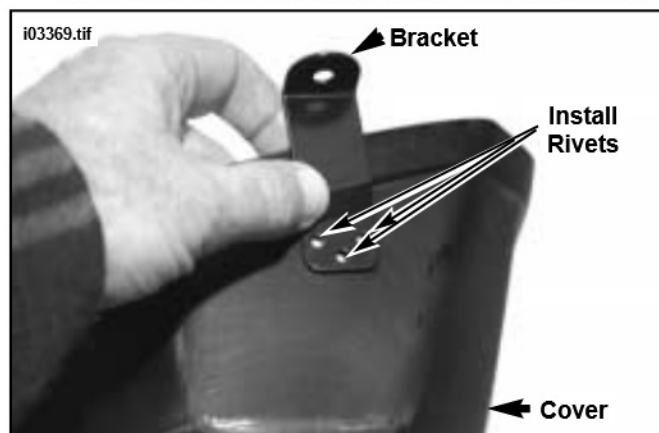

Figure 9. Install Small Airbox Cover Bracket
24. See Figure 9 and Service Parts Illustration. Obtain smaller airbox cover bracket from kit. Orient bracket as shown and install three rivets to secure bracket to cover.